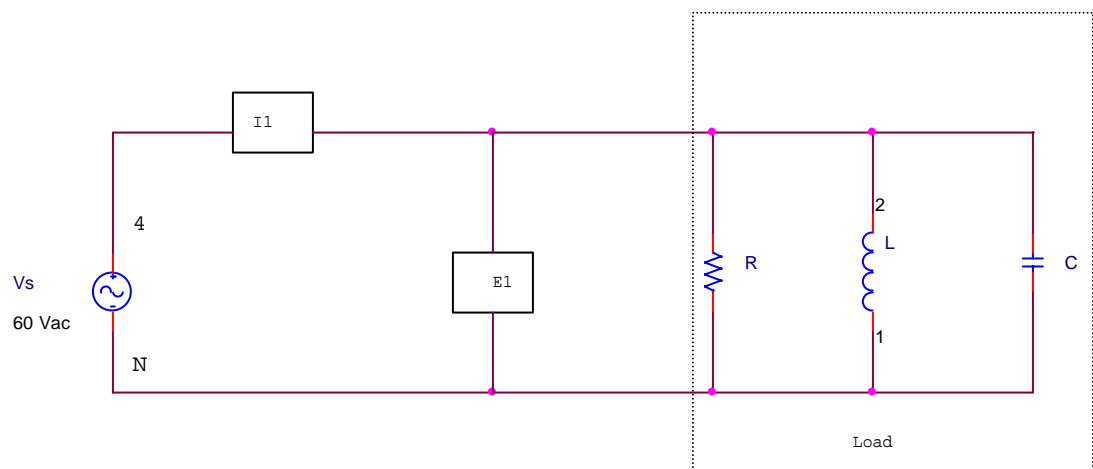

Figure 1.1 Parallel RLC circuit configuration
Utilize the circuit element values given in Figure 1.1 and Table 1.1. For all cases shown in Table 1.1, determine the theoretical values for  $I_1$ ,  $E_1$ ,  $P$ ,  $S$ ,  $Q$ , and  $p.f.$  Show all of your work and summarize your results in a table.
3. Construct the circuit of Figure 1.1. Leave the capacitor out of the circuit at this point. It will be installed at a later step.  $I_1$  and  $E_1$  refer to the DAI metering connections.
12. Rewire the circuit of Figure 1.1 to include the capacitor. Repeat steps 7 through 9 to complete Table 1.1.